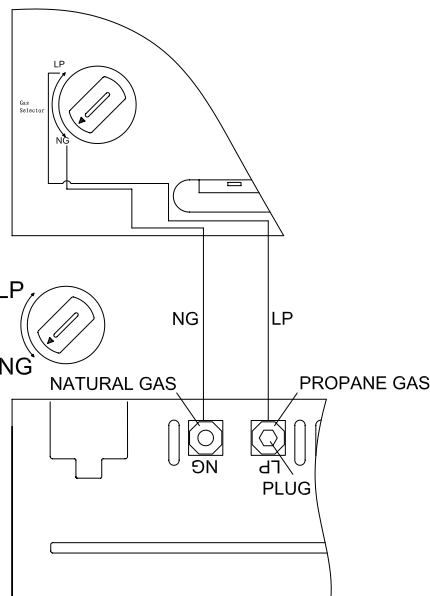

Figure 15
3. For NATURAL GAS, press knob using a flat screwdriver with a blade with thickness of a quarter and turn knob counterclockwise  until the knob locks into the NG position (see Figure 15). Selection valve must be locked in the NG position. Do not operate heater between locked positions!